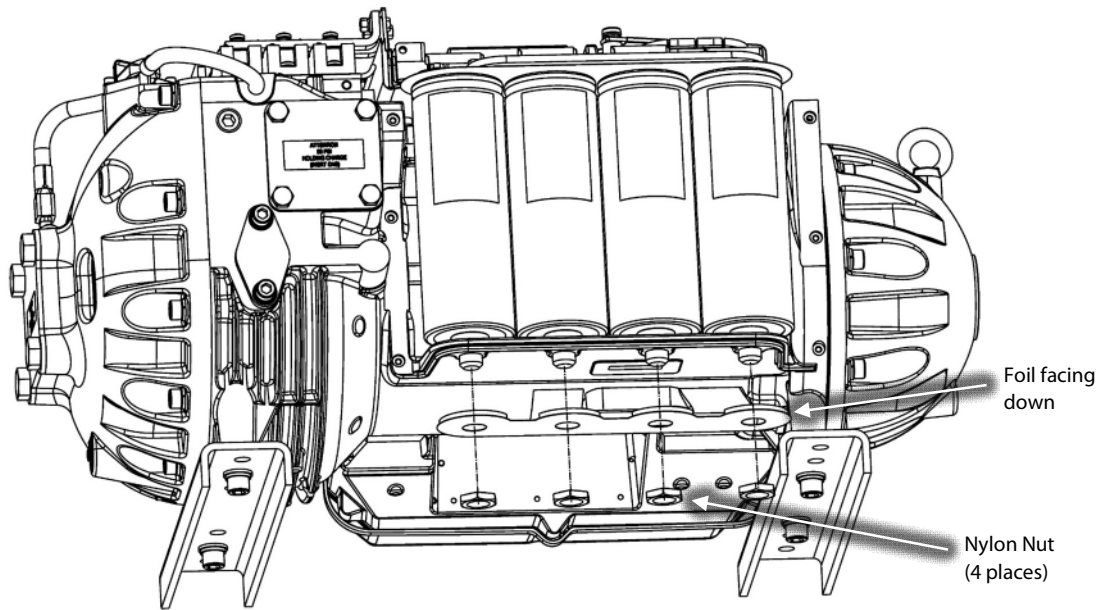

Figure 12 – Capacitor Nut Removal
22. Remove the nylon nuts and foil at the base of the DC capacitor assembly, under the main compressor housing. Refer to Figure 12 (Capacitor Nut Removal).
14. Place the capacitor membrane foil side down, underneath the main compressor housing and then reinstall the nylon nuts to the base of the DC capacitor assembly, under the main compressor housing and torque to 7 Nm (62 in.lb.). Refer to Figure 12 (Capacitor Nut Removal).